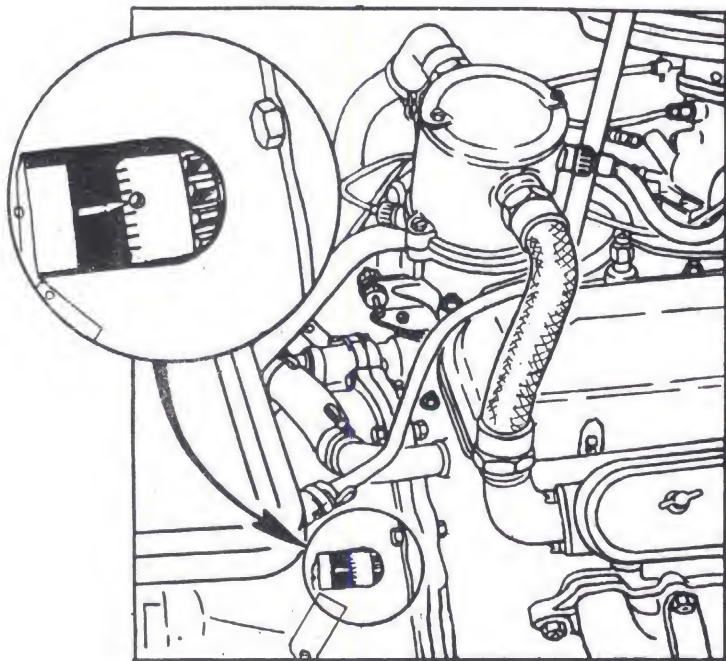

FIG. 86. SETTING THE PISTON OF THE 1st CYLINDER IN TDC
4. Carefully turn the crankshaft until the ball on the crankshaft flywheel gets aligned with the pointer in the clutch housing port (Fig. 86).